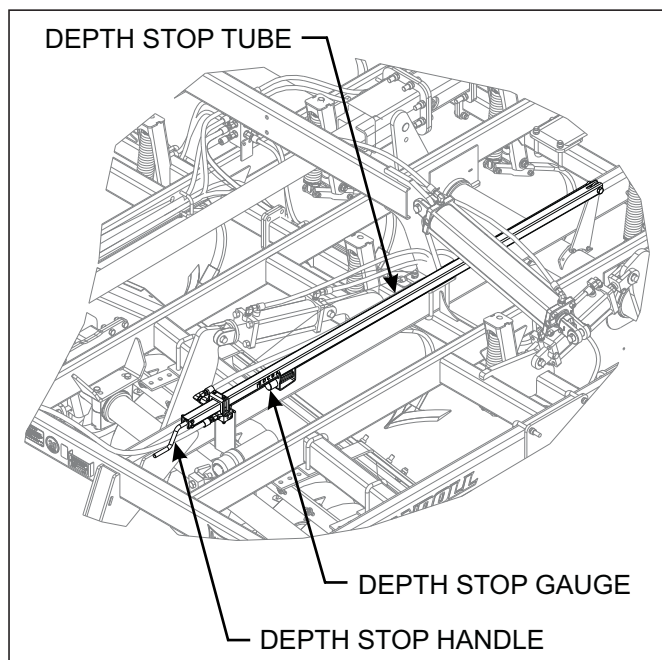

Figure 4-11: Depth Stop Adjustment
1. Adjust the depth stop by turning the handle in (clockwise) to increase operating depth **See Figure 4-11.** Turn the handle out (counter-clockwise) to decrease operating depth. One turn will equal approximately 3/16" adjustment in depth.